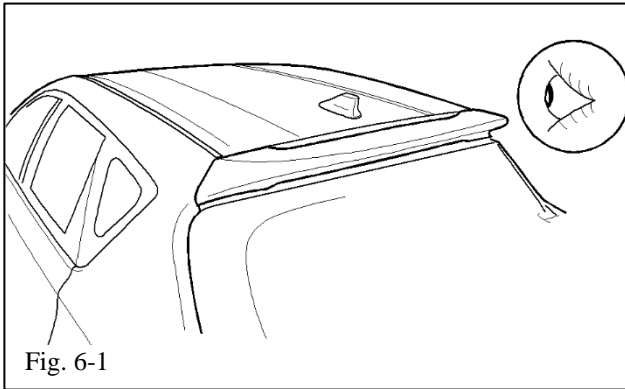

Fig. 6-1
-  (a) Check the rear spoiler for proper fitment (Fig. 6-1).